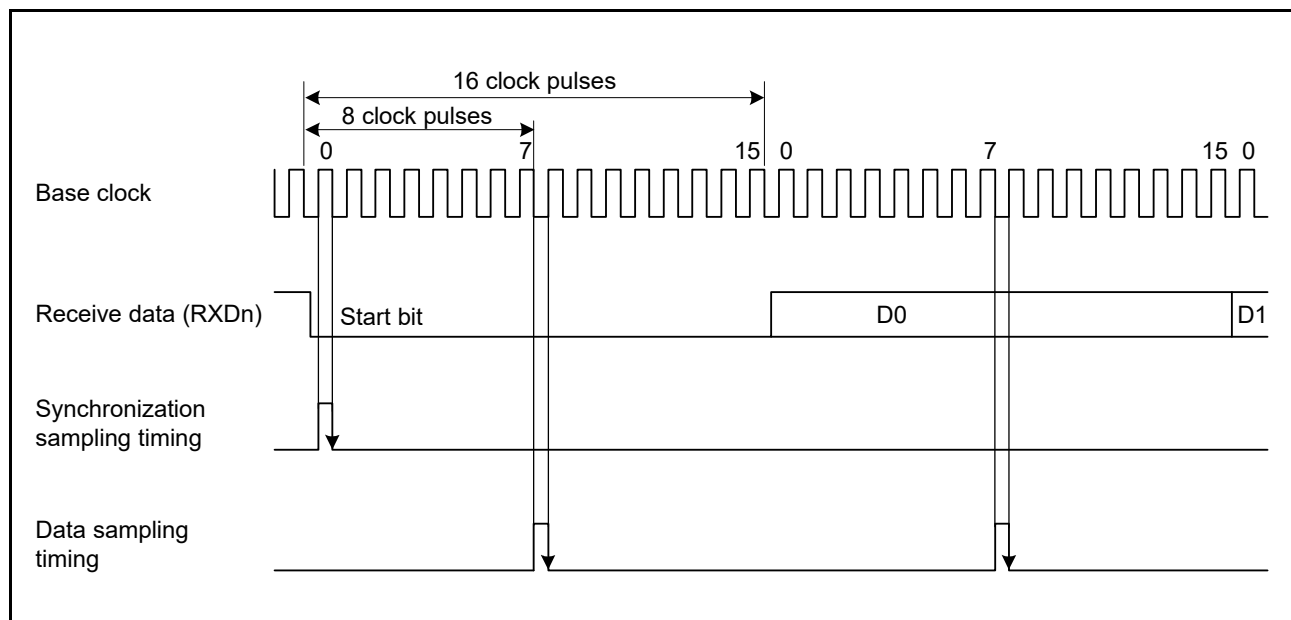

Figure 41.7 Receive Data Sampling Timing in Asynchronous Mode
In reception, the SCI samples the falling edge of the start bit using the base clock, and performs internal synchronization. Since receive data is sampled at the rising edge of the 8th pulse*1 of the base clock, data is latched at the middle of each bit, as shown in Figure 41.7. Thus the reception margin in asynchronous mode is determined by formula (1) below.